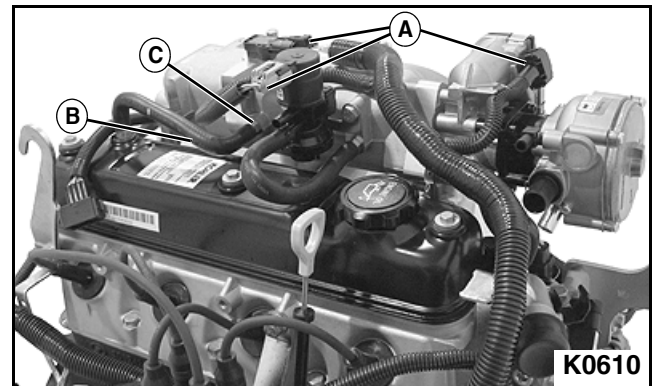

Figure 3-55
1. Disconnect three electrical connectors (A) from intake manifold sensors. **See Figure 3-55.**
2. Disconnect PCV hose (B) from intake manifold port (C). Close all openings.